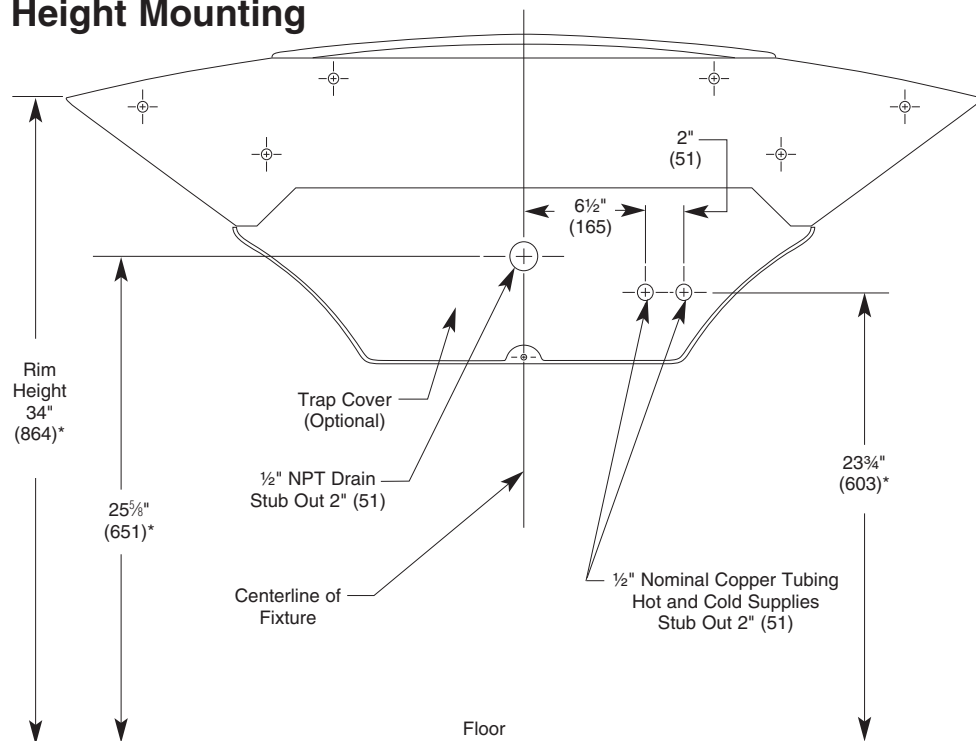
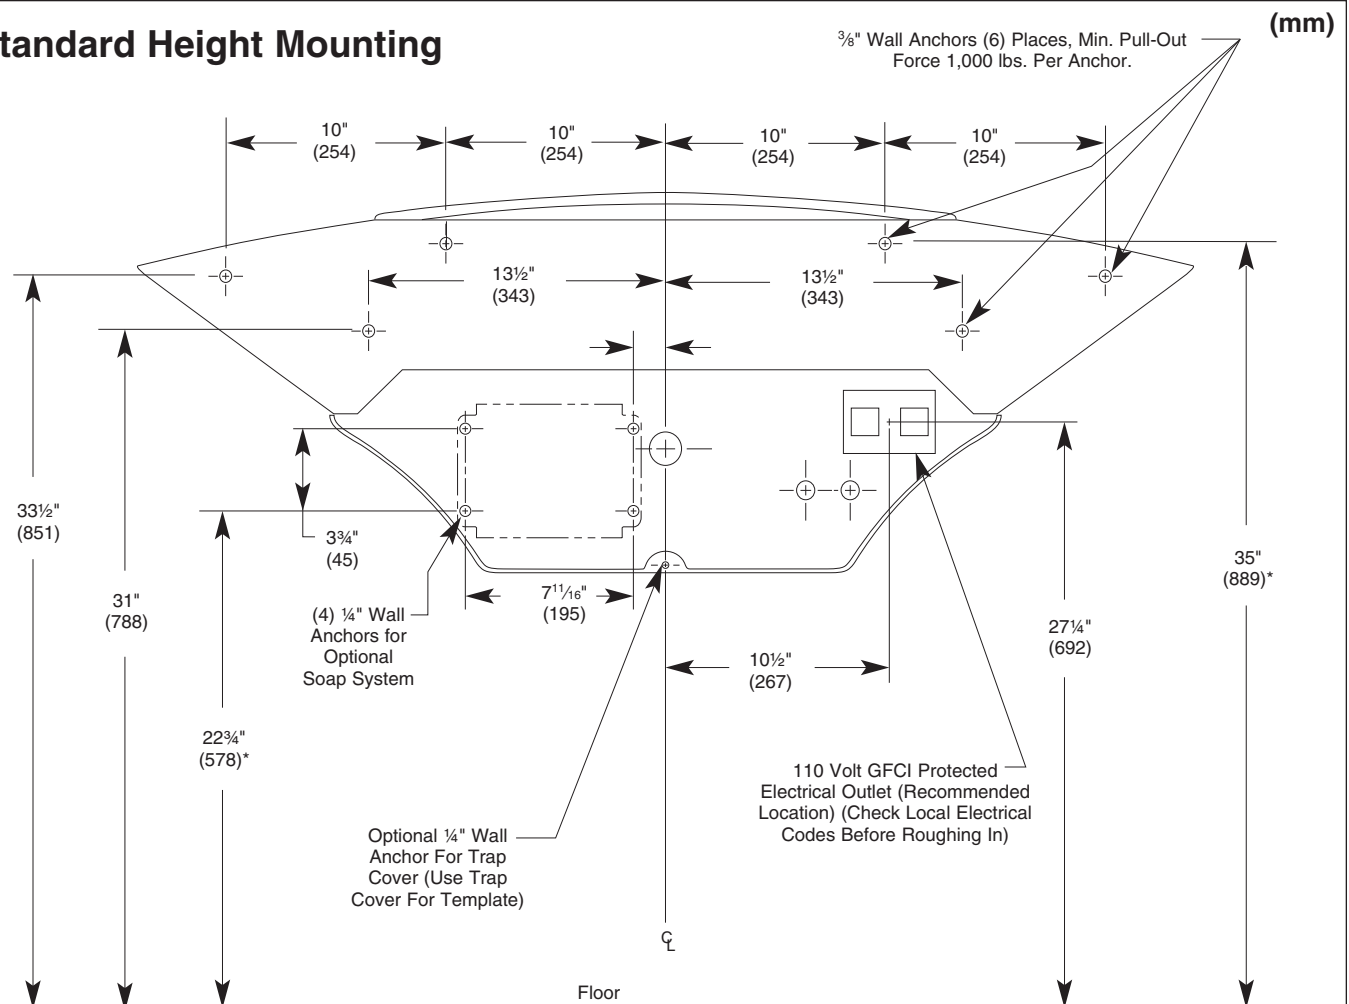

Figure 1
Figure 2
**NOTE:** Refer to Figure 1 below and Figure 2 on page 4 for Express® Crescent® Lavatory System rough-ins and dimensions.
1. Rough in  $\frac{1}{2}$ " nominal copper tubing hot and cold supply lines and  $1\frac{1}{2}$ " NPT drain waste connection through wall at dimensions shown in Figure 1.
2. Install a 110 volt GFI protected electrical outlet per local code at the location shown in Figure 2.
3. Install six 3/8" wall anchors with a minimum pull-out rating of 1,000 lbs. (supplied by installer) at the locations marked in Figure 2.
4. OPTIONAL TRAP COVER: Install one 1/4 wall anchor at the location marked in Figure 2.
3. Drill holes in the wall and install the six  $\frac{3}{8}$ " wall anchors with a minimum pull-out rating of 1,000 lbs. (supplied by installer) at the locations shown in Figure 1 on page 3.
4. OPTIONAL TRAP COVER: Install the  $\frac{1}{4}$ " wall anchor for the Trap Cover (supplied by installer) as shown on Figure 1. Use Trap Cover to locate.